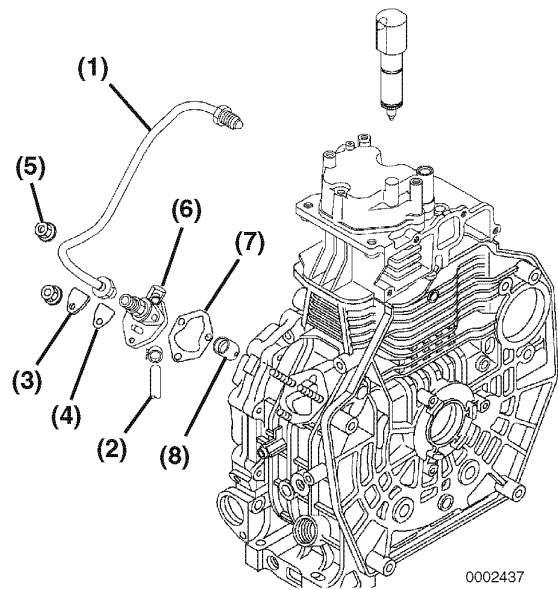

Figure 9-16
1. Clean the areas around the fuel injection pump (**Figure 9-16, (6)**) and fuel injector.
3. Remove the high-pressure fuel injection line (**Figure 9-16, (1)**). Use care not to bend the line.
4. Remove the fuel supply line (**Figure 9-16, (2)**).
6. Remove the three nuts (**Figure 9-16, (5)**) fastening the fuel injection pump into the cylinder block.
7. Remove the inspection cover (**Figure 9-16, (3)**) and gasket (**Figure 9-16, (4)**).
9. Remove the shim(s) (**Figure 9-16, (7)**). Use care not to bend or damage the shim(s).
10. Remove the fuel injection pump tappet (**Figure 9-16, (8)**) from the crankcase. The tappet may stay in the cylinder block. You can remove it with your finger. Inspect the face or roller end of the tappet for damage or abnormal wear. See *Tappet* on page 8-13.